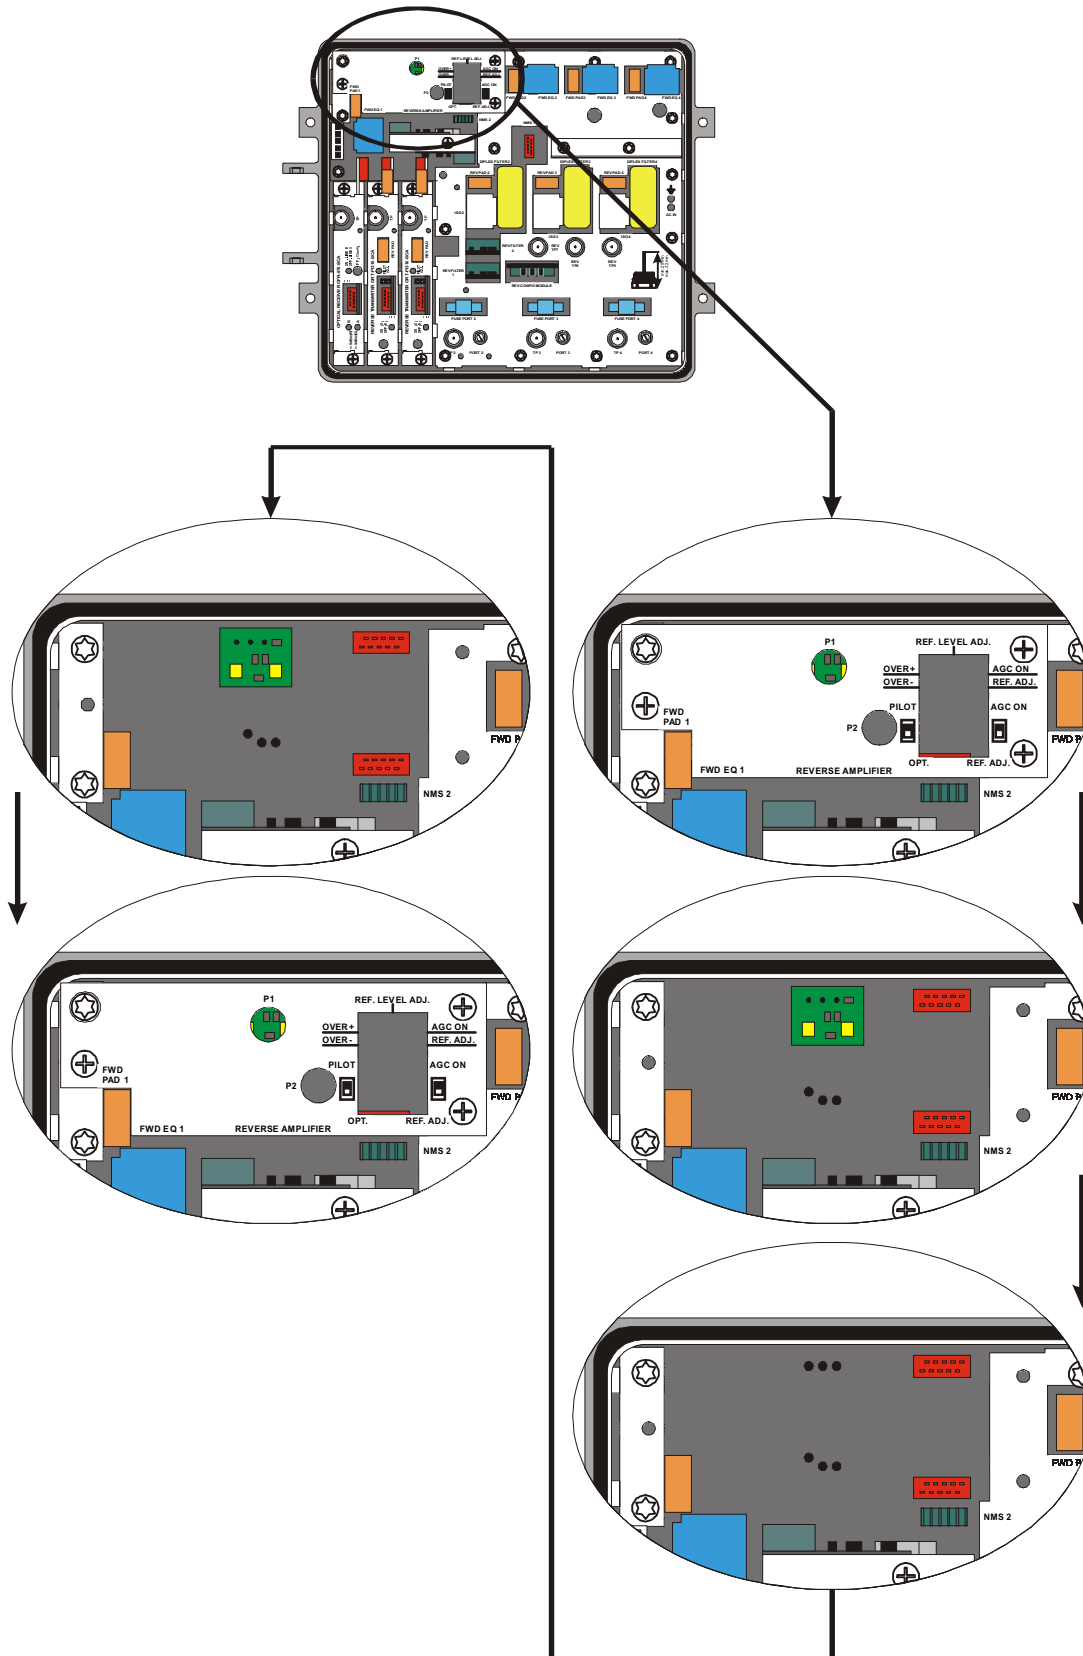

Fig. 27. HPG module replacement.
2. If the node is to be equipped with an optional automatic gain control module, install the appropriate module, according to the Fig. 10. If not, the installed HGP xx module should be replaced with a HGP xx module of required frequency (as shown on Fig. 27) following the procedure: